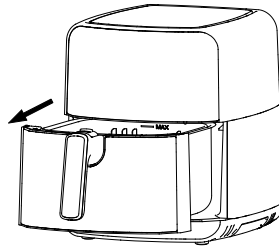

Fig.4
4. Slide the pot back into the Hot-air fryer (Fig 4). Noting to carefully align with the guides in the body of the fryer. Never use the pot without the basket in it.